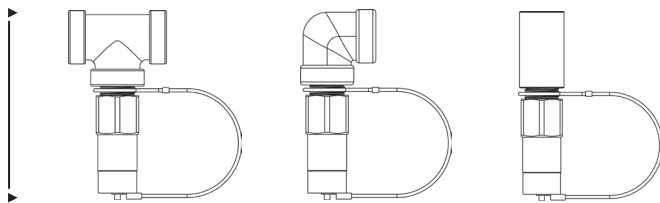

FIGURE 5-8
8. Make certain a blow-off cap is in place over each nozzle tip. These blow-off caps are designed to keep grease from building-up on the nozzle orifice and inhibiting the agent flow. See Figure 5-8.